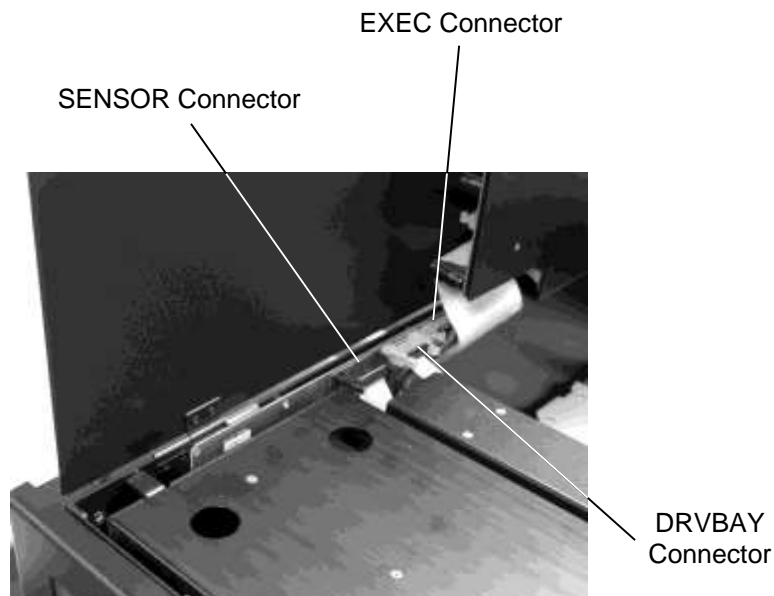

Figure 9-3 Top Connectors on the Interconnect PCBA
5. On the Interconnect PCBA, unplug the three ribbon cables. Refer to Figure 9-3.
13. Reinstall the Sensor Master Assembly using the two 5/64ths hex-head screws on the left side and two flat-head screws on the right side. Tighten the screws with a 5/64-inch hex driver (Allen wrench) and a No. 1 Phillips screwdriver. See Figure 7-37. Plug all three ribbon cables back into the Interconnect PCBA as shown in Figure 9-3.